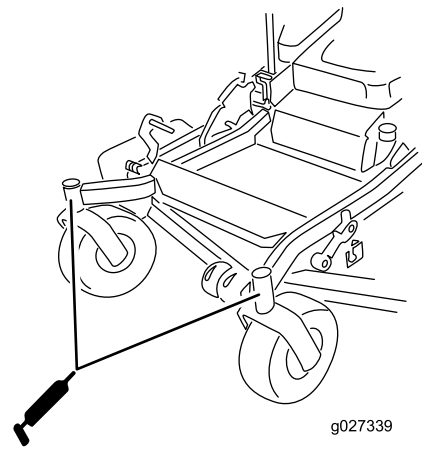

Figure 41
10. Remove the grease fitting in the hole. Install the hex plug and dust cap (Figure 41).